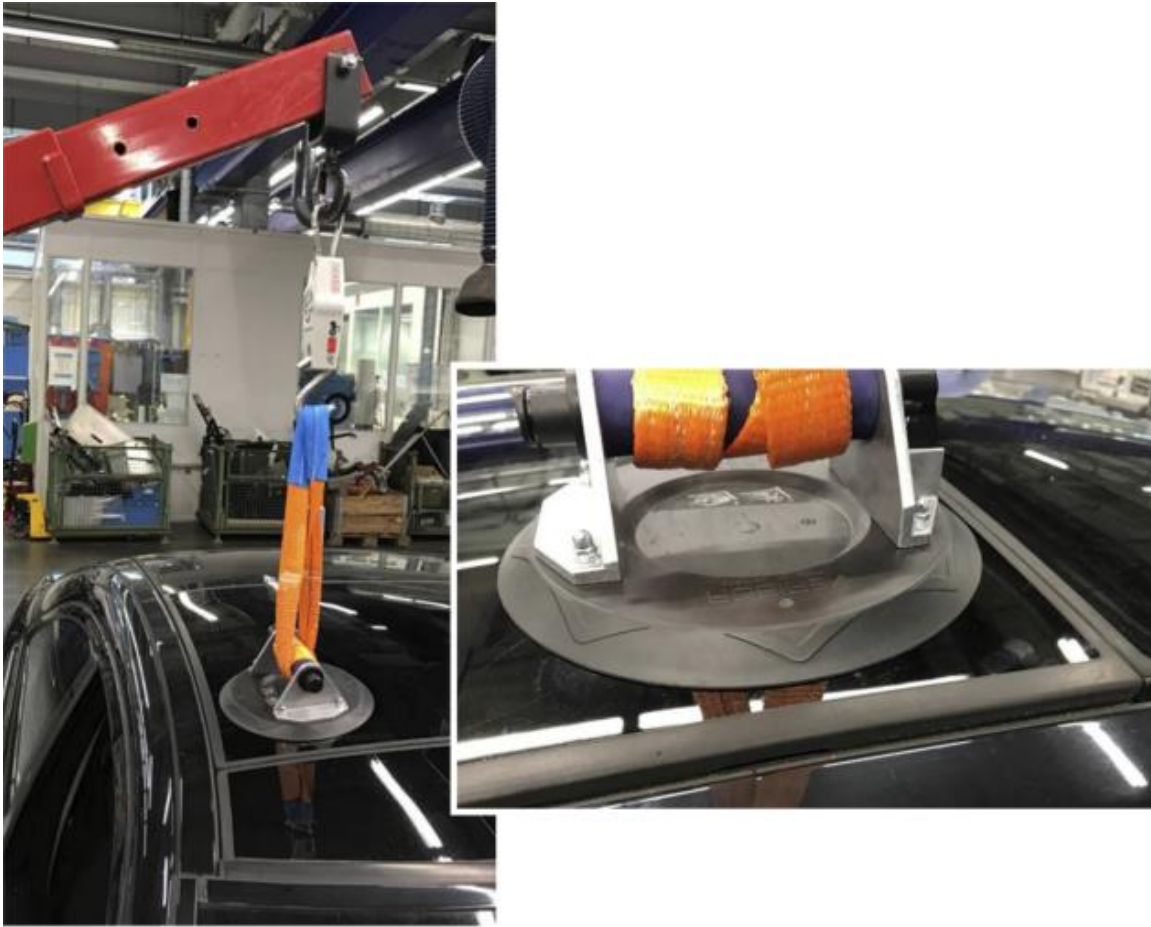

Figure 3
3. Position suction cup tool (Figure 3) and pull as **vertically** as possible (tolerance of ± 10 degrees) using lifting tool.